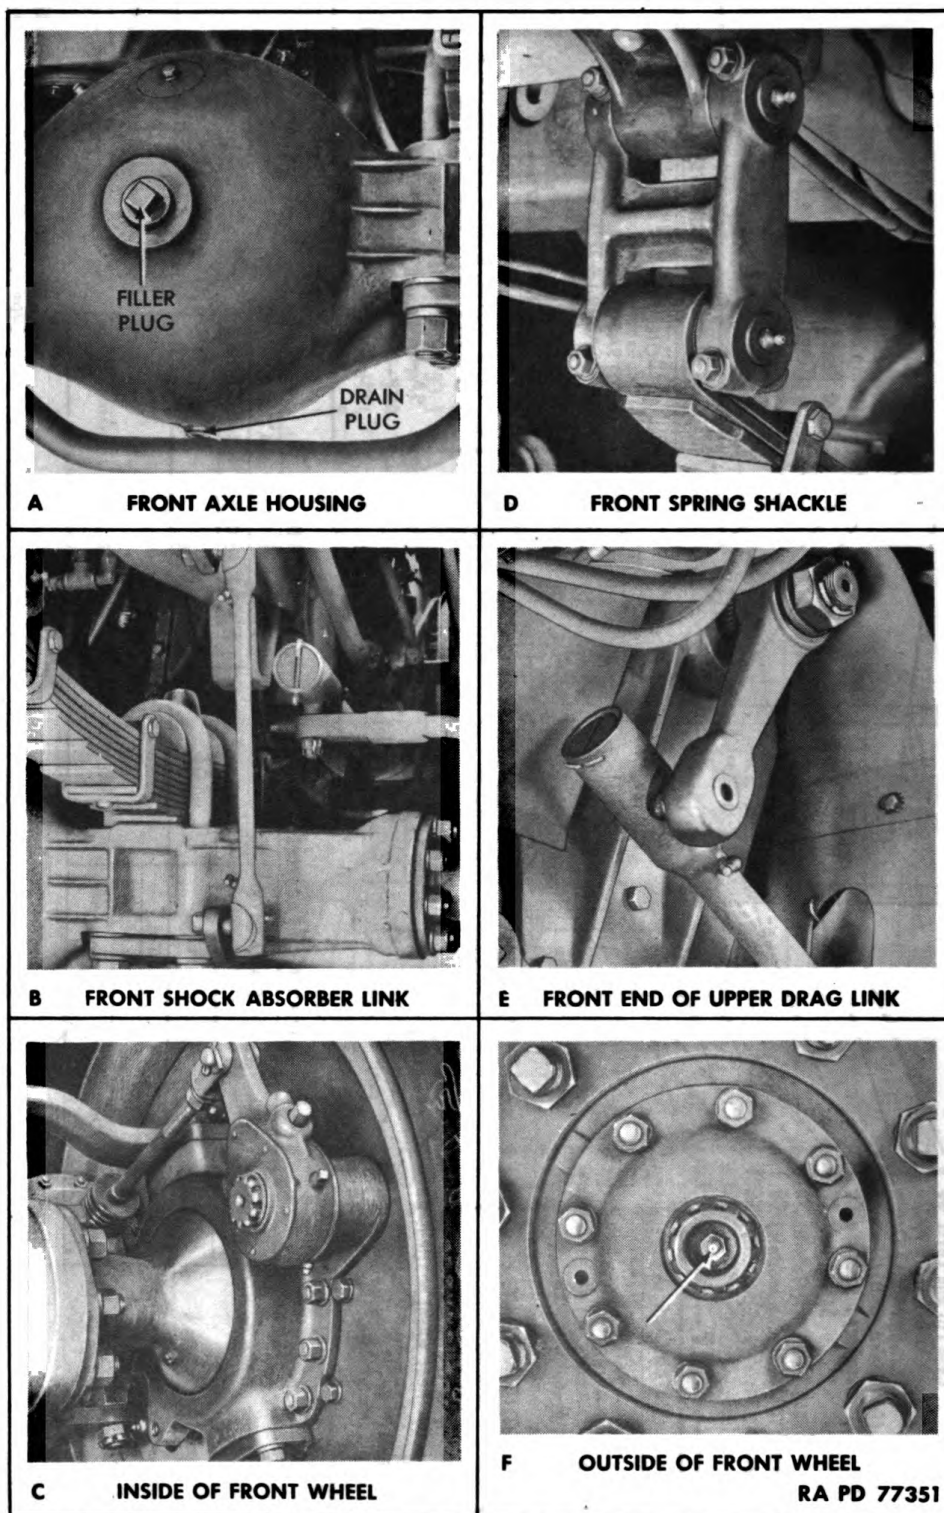
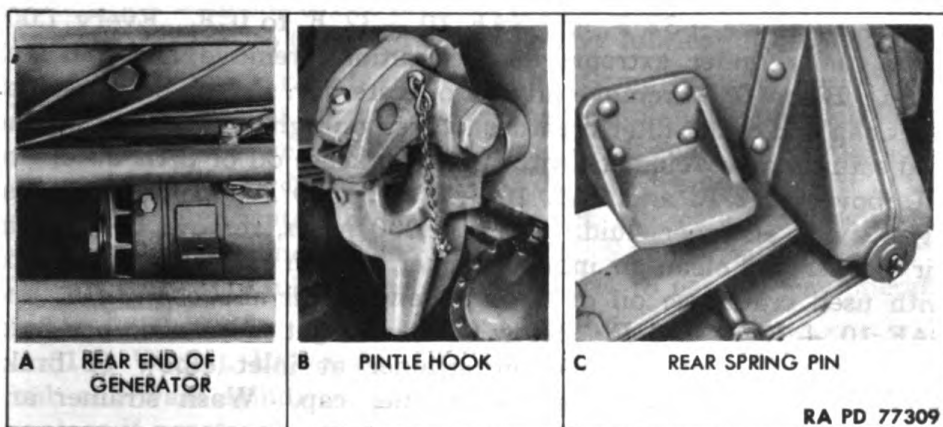

Figure 7 — Lubrication Points — A
Figure 10 - Lubrication Points - D
a. War Department Lubrication Guide (fig. 6) prescribes lubrication maintenance for 4- to 5-ton tractor truck (Federal). Localized lubrication points are illustrated in figures 7, 8, 9, and 10.
(7) **GEAR CASES** (F, fig. 8; A, fig. 7; A, fig. 9). Weekly, check level with truck on level ground and, if necessary, add lubricant to within $\frac{1}{2}$ inch of plug level when cold or to plug level when hot. Drain and refill at intervals indicated on guide. Drain only after operation. Keep all gear case vents clean (*double reduction front axle and transfer case*). Before refilling, pour $\frac{1}{2}$ quart of universal gear lubricant through fill plug openings in differential drive pinion cage and transfer case declutching unit housing.
(9) **UNIVERSAL JOINT (FRONT WHEELS)** (C, fig. 7). With truck on level ground, remove inspection plug in lower side of universal joint housing and fill through fitting in wheel hub to level of plug hole.
(14) **OILCAN POINTS (C and E, fig. 8; C, fig. 7; C and D, fig. 9; A and B, fig. 10).** Every 1,000 miles, lubricate throttle and spark control rod ends, clevises, hinges, latches, pintle hook, foot brake and clutch control linkage, emergency brake control lever spring and ratchet, air compressor rocker arm shaft with SAE 30 engine oil above $+32^{\circ}\text{F.}$; SAE 10 $+32^{\circ}\text{F.}$ to 0°F. ; light preservative lubricating oil below 0°F.